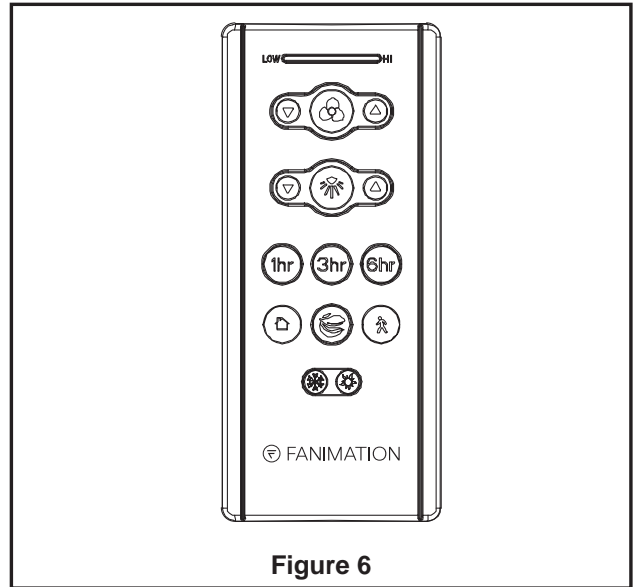

Figure 6
5. If your receiver slid out of the bracket at all while wiring your fan, slide it all the way into the hanger bracket, taking care not to pinch the wires. The canopy comes up to cover the receiver and hanger bracket. (Figure 6)
### 8. Remote functions: (Figure 6)